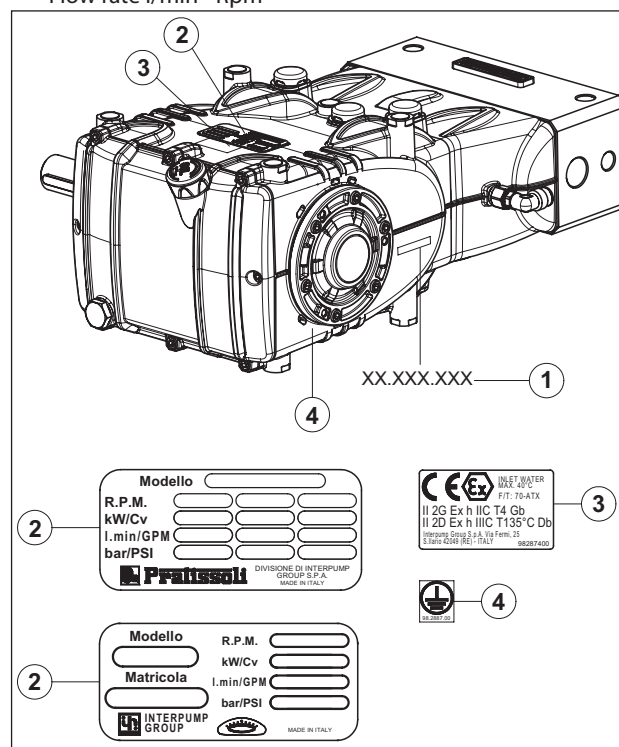

Fig. 1
Each Fig. 1 pump has its own Serial No. XX.XXX.XXX see point ① and an identification plate see point ② which shows: